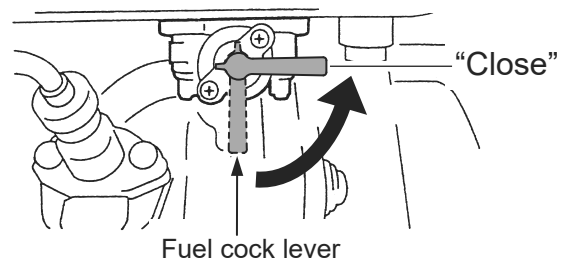

Fig.27
- 3 Shut the fuel cock.(Fig. 27)